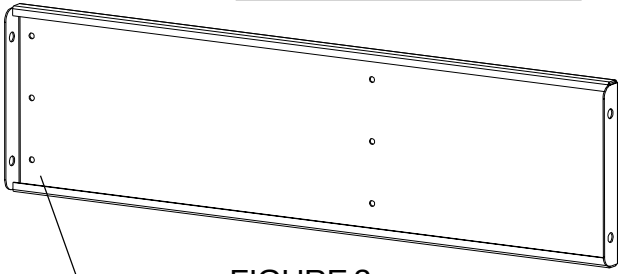

FIGURE 3
Determine which side you want your shelf to pull out from. Use **FIGURE 3** as reference. Attach the shelf support brackets to both set of holes between the legs with screws (CC) as shown in **FIGURE 4**. Then separate each slide and attach the outer section to the inside of each shelf support bracket with screws (DD) and nuts (EE) as shown in **FIGURE 5**. **NOTE: Attach rear screw and nut first.**